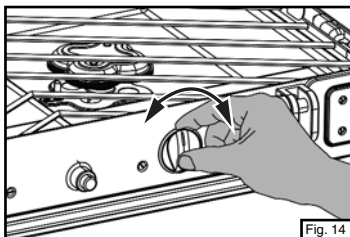

Fig. 14
- Adjust flame with burner valves (Fig. 14). Flame should be blue with a hint of yellow on tips.